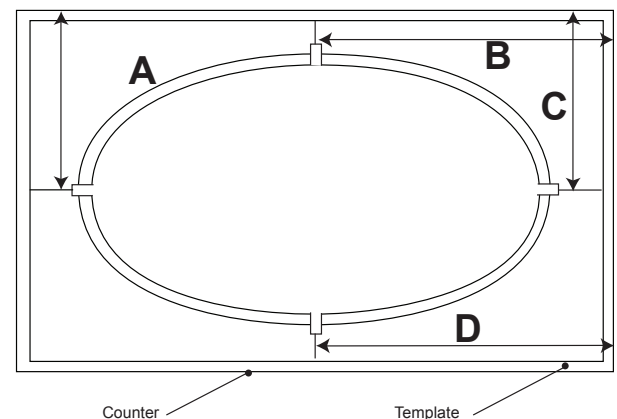

Figure 16 - Distance Measurement
- Measure the distance from the wall, or other fixed point to the center lines (Figure 16).